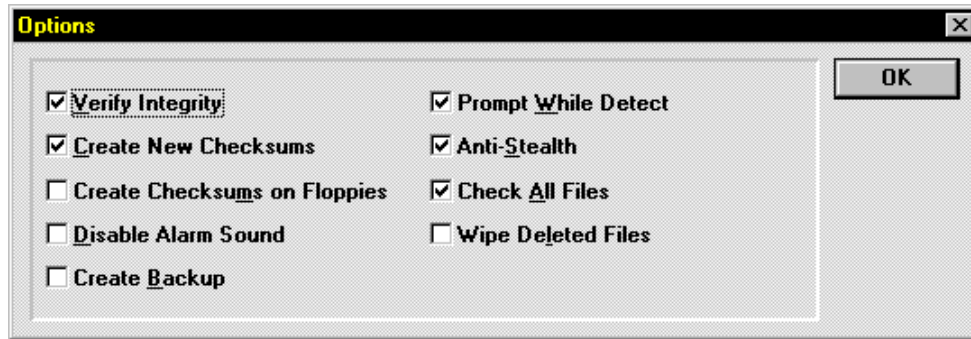

Figure A.20 Options Dialogue Box
3. Select the **Set Options...** item from the **Options** drop-down menu. This brings up the **Options** dialogue box. Refer to Figure A.20.
4. Set the check boxes as indicated in Figure A.20 and click the **OK** button to accept the changes and dismiss the dialogue box.